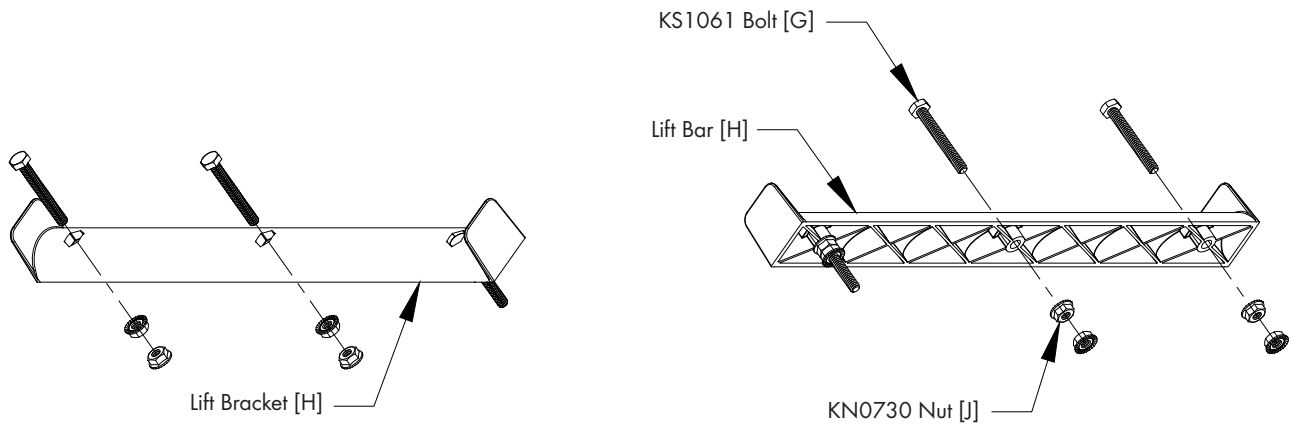

Figure 3
Locate (1) Lift Bar [H] and insert a KS1061 Bolt [G] into one of the holes, so the head sits down into the recess and secure with a KN0730 Nut [J], then install a second KN0730 Nut [J] on the same bolt, but thread it half way onto the bolt. Repeat with 2 more bolts. See Figure 3.